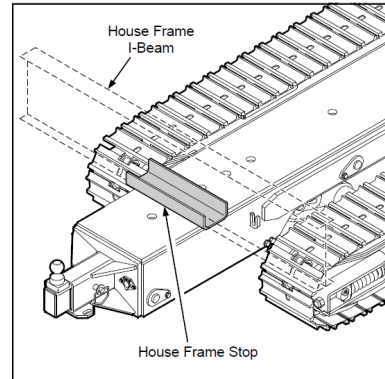

Figure 2: Platypus Frame Stop/Beam Saddle
- Two frame saddles should be placed at each chassis beam. (Figure 2)